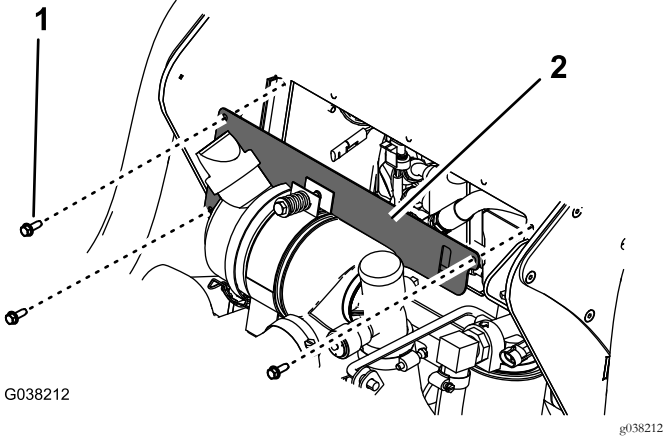

Figure 2
2. Remove the cover plate (Figure 2).